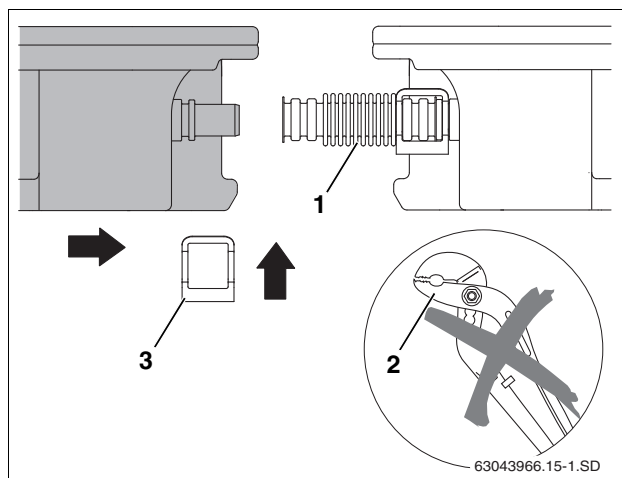

Fig. 49 Pushing second collector toward the first
- ▶ Do not use any tools, e.g. pliers (Fig. 49, [2]). These could render the corrugated pipe connector unusable.
- ▶ Push the second collector toward the first with the collector connections aligned with the preassembled flexible connectors (Fig. 49, [1]) on the first collector.
- ▶ Once the connectors are pushed all the way to the stop, place second clip (Fig. 49, [3]) over the flexible connector and collector connection.